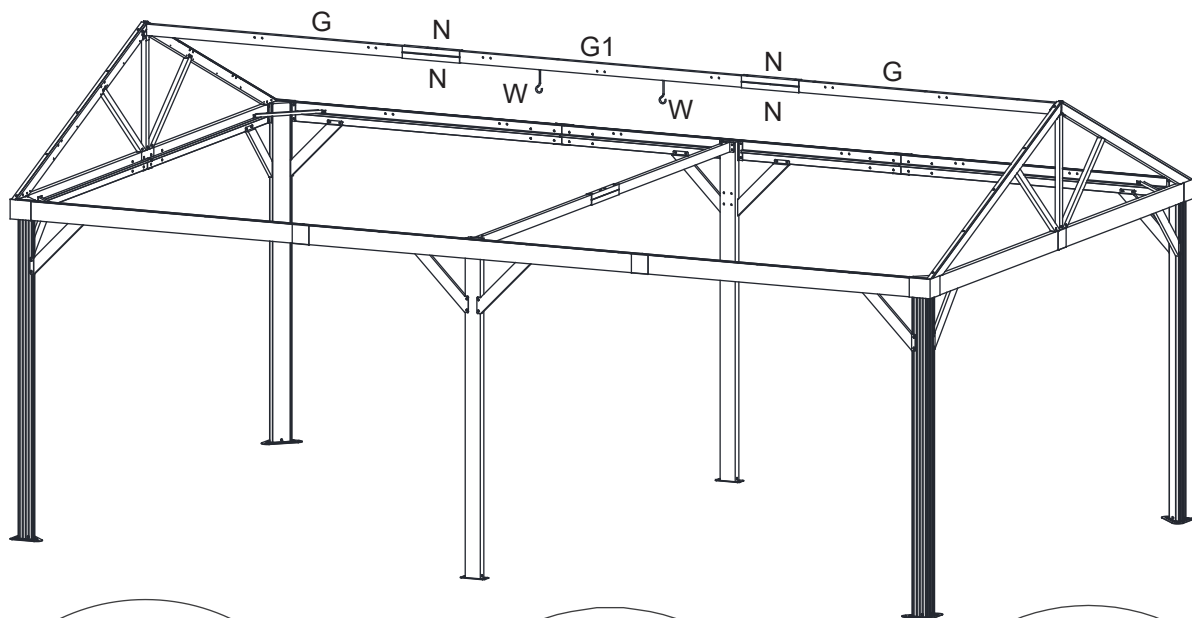

Figure 10.2
10.2 Connect the Roof Vent Hook (W) to the Middle Support bar (G1). See Figure 10.2.